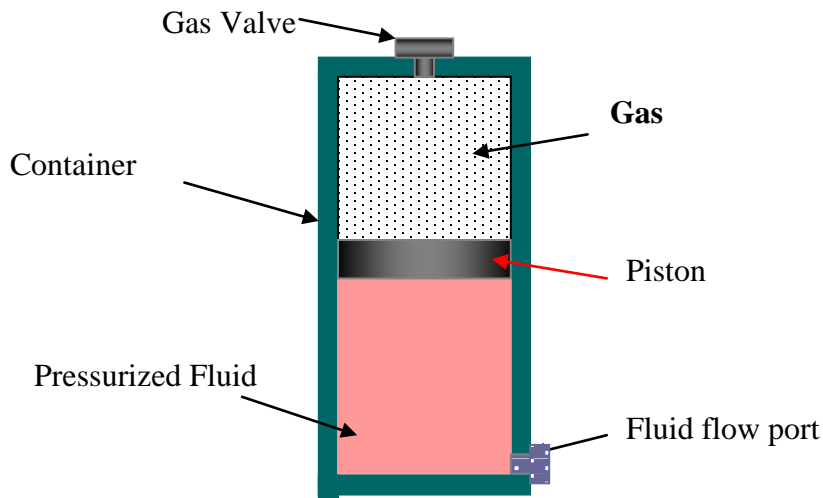

Fig 5.27 Separator - Type Piston Accumulator
- i) **Piston type**: The piston type of accumulator consists of a cylinder containing a freely floating piston with proper seals. The piston serves as a barrier between the gas and oil.(fig5.27). The main disadvantage of the piston types of accumulator are that they are expensive to manufacture and have practical size limitation. The principal advantage of the piston accumulator is its ability to handle very high or low temperature system fluids through the utilization to compatible O- ring seals.